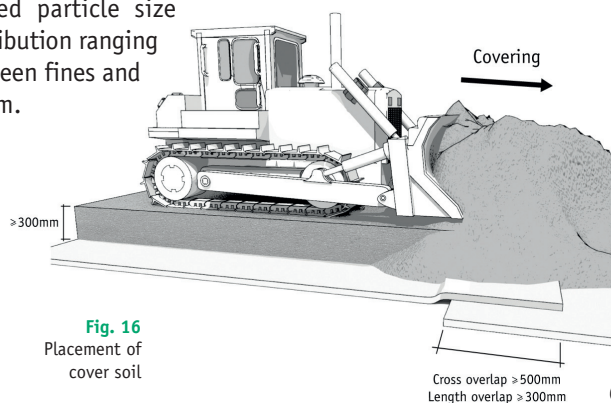

Fig. 16
19.5 Soil cover shall be placed over the GCL using construction equipment that minimizes stresses on Bentofix®. In any case a minimum of 300mm of cover shall be maintained between the equipment tires/tracks and the GCL at all times during the covering process (fig. 16).
19.7 Soil cover should be placed on Bentofix® by carefully pushing the soil on top of the GCL (fig. 16), without causing any damage and in a manner that prevents the soil from entering the GCL overlap zones.